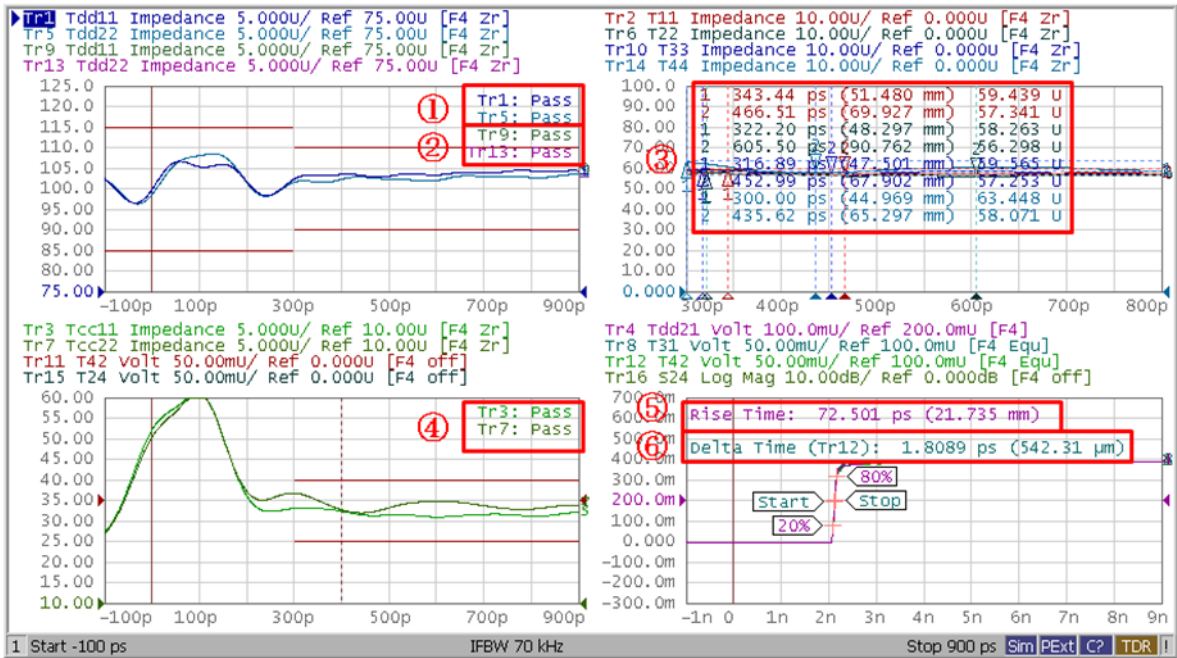

Figure 7-1: Measurement example of SI-01, SI-02, SI-03, SI-04, SI-08, and SI-10.
This section specifies all reference material *external* to the MOI, including the specific subclauses references for the test in question, and any other references that might be helpful in understanding the test methodology and/or test results. External sources are always referenced by a bracketed number (e.g., [1]) when mentioned in the test description. Any other references in the test description that are not indicated in this manner refer to elements within the MOI document itself (e.g., “Appendix 8.1.”, or “Figure 7.1”).
Observable Results: Read Pass/Fail sign on Trace1 and Trace5 (item1 in Figure 7-1).
Observable Results: Read Pass/Fail sign on Trace9 and Trace13 (item 2 in Figure 7-1).
Read the marker values on Trace2, Trace6, Trace10, and Trace14. (item3 in Figure 7-1)
Read Pass/Fail sign on the Trace3 and Trace7. (item4 in Figure 7-1)
Observable Results: Read the rise time on the Trace4. (item5 in Figure 7-1)